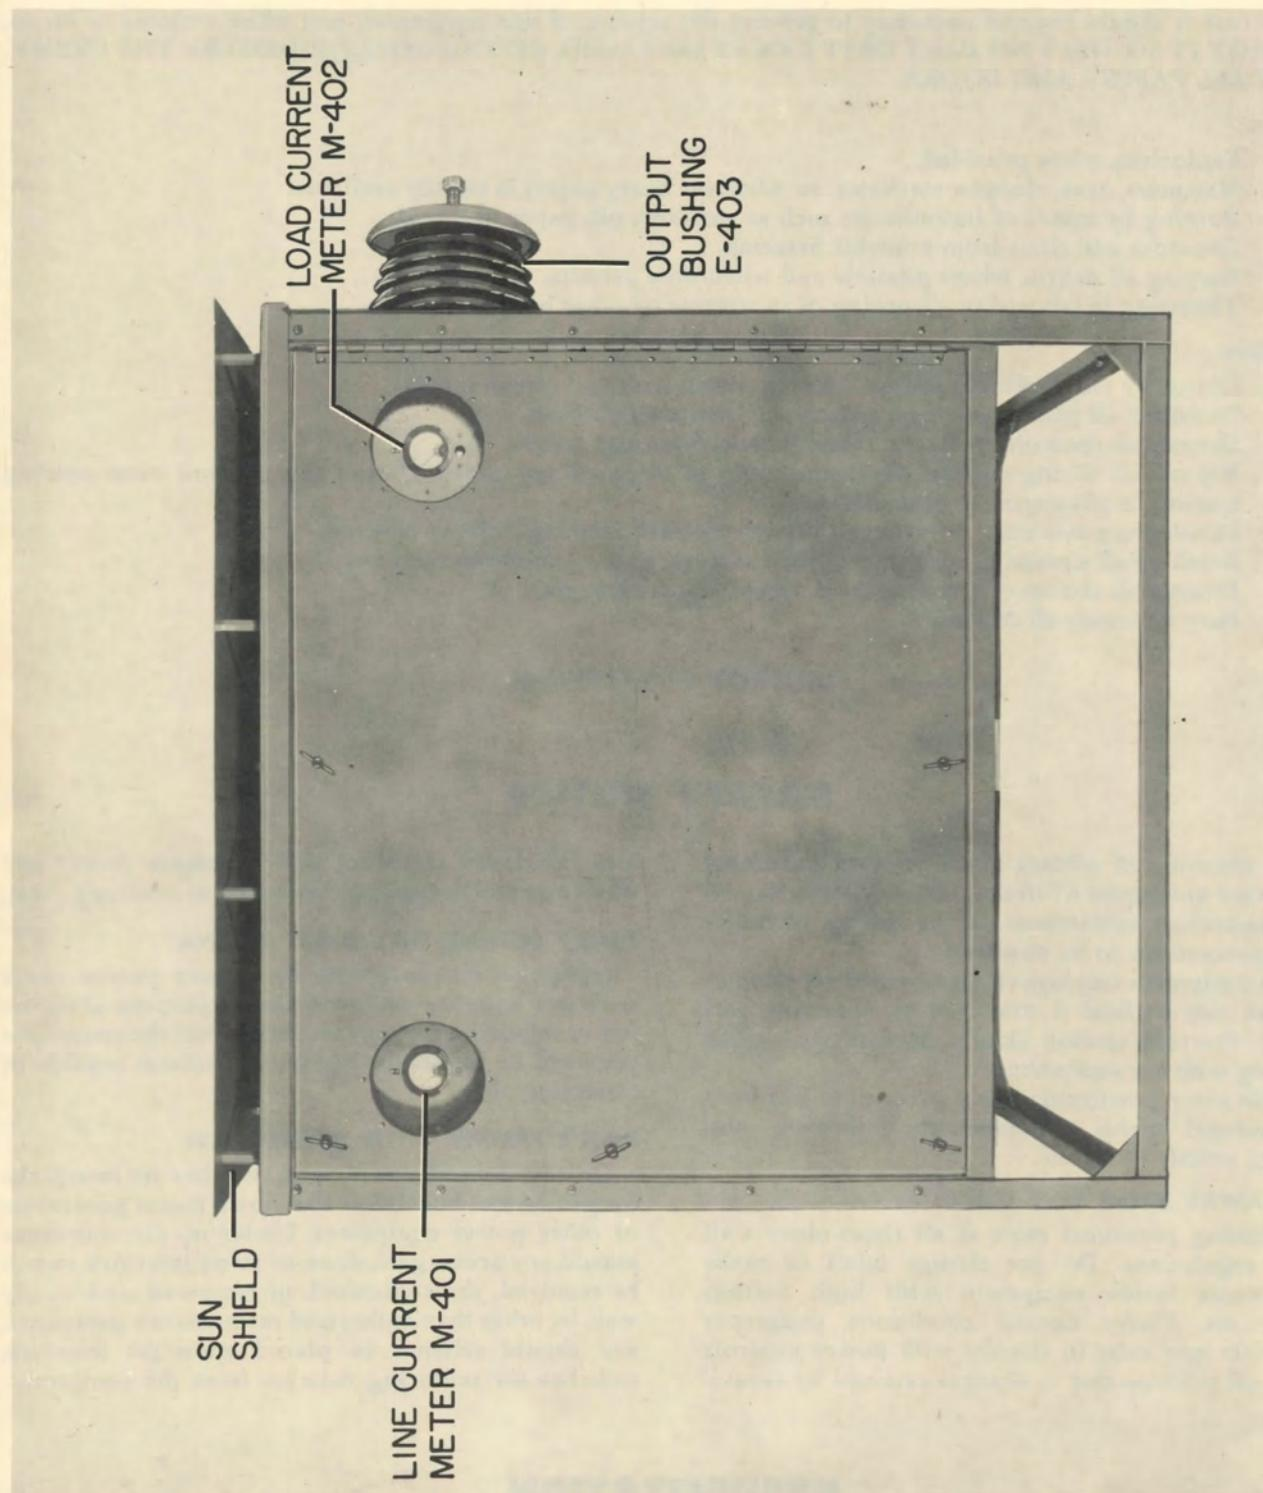
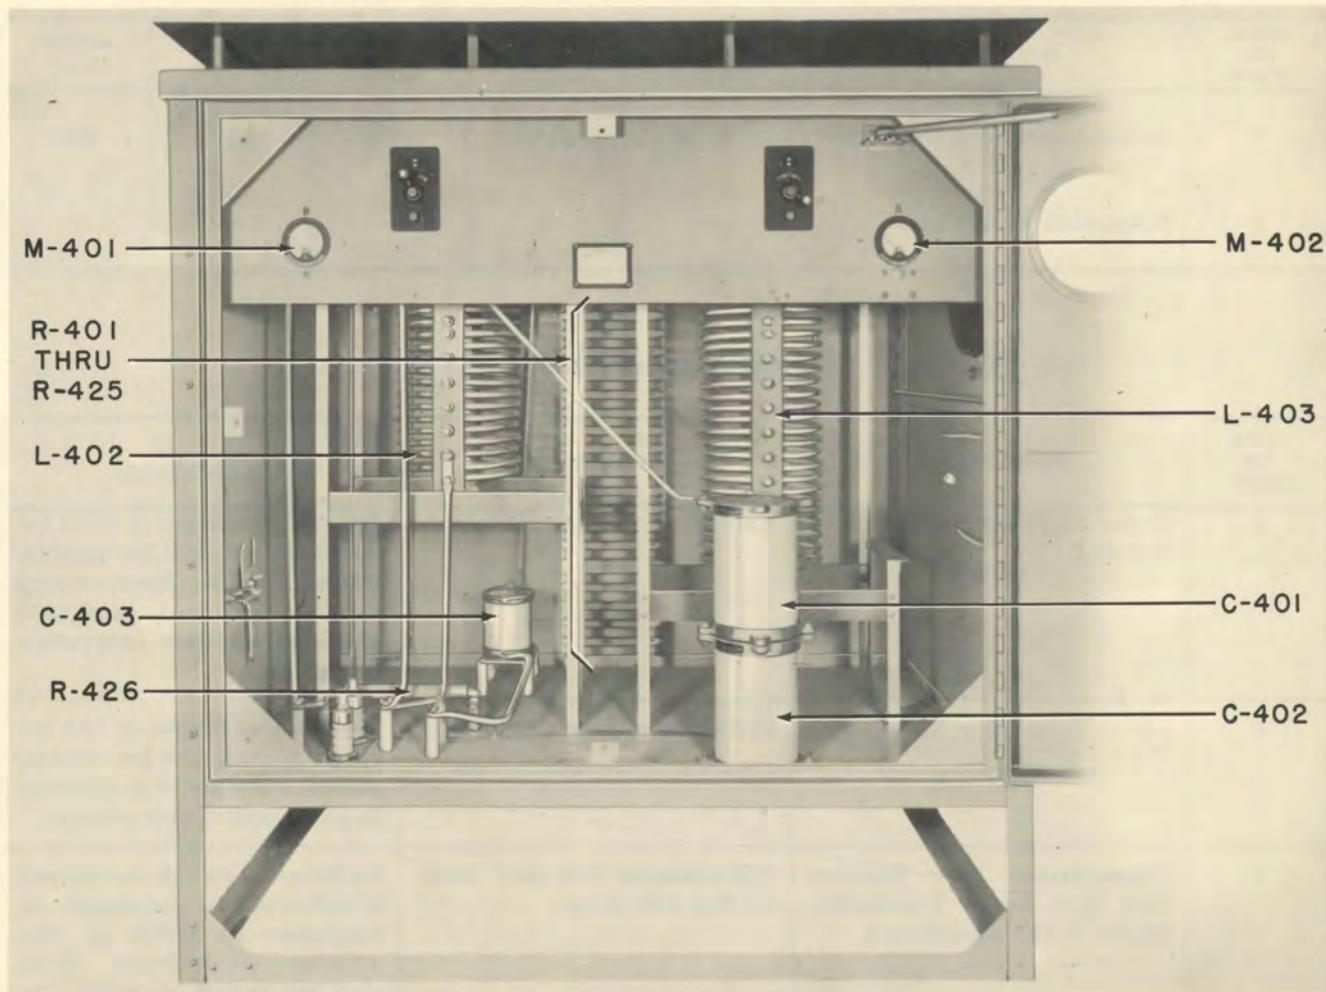

Figure 1-1. Front View of Antenna Coupler CU-277/URT
Figure 1-2. Front View of Antenna Coupler CU-277/URT with door open.
b. DESCRIPTION.—The Antenna Coupler is contained in a weatherproof aluminum housing 62 $\frac{1}{4}$ " high, by 61 $\frac{1}{4}$ " wide by 41 $\frac{1}{4}$ " deep, exclusive of projecting insulator and sunshield. (See figure 1-1.) A hinged door on the front of the housing permits access to the control panel and the interior. (See figure 1-2.)